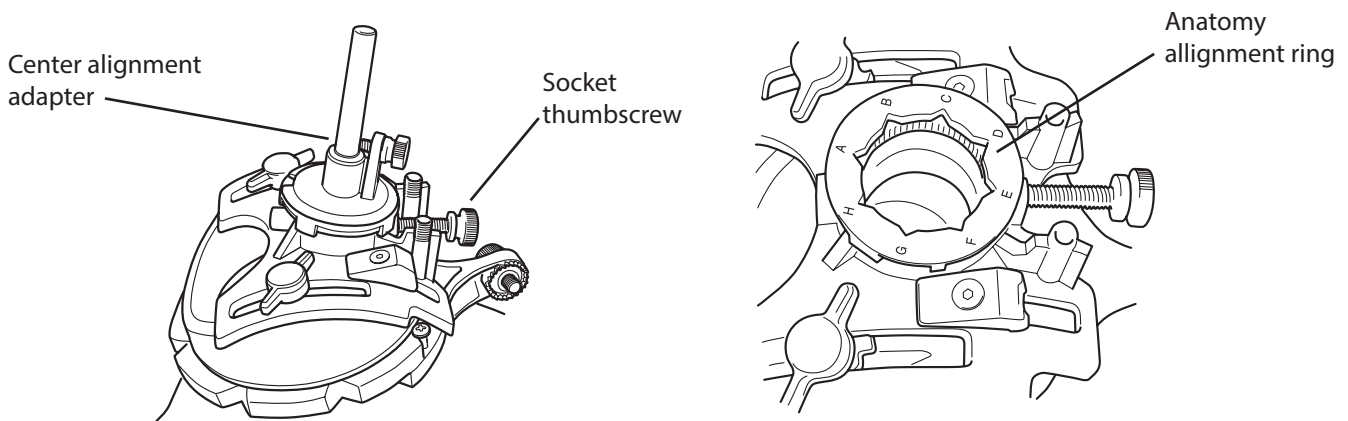

Figure 17. Align the “A” on the anatomy alignment ring to the patient anterior by rotating the center alignment adapter.
1. Align the anatomy alignment ring by loosening the socket thumbscrew, inserting the center alignment adapter into the Nexframe socket and rotating the center alignment adapter to align the “A” to the patient anterior (Figure 17).